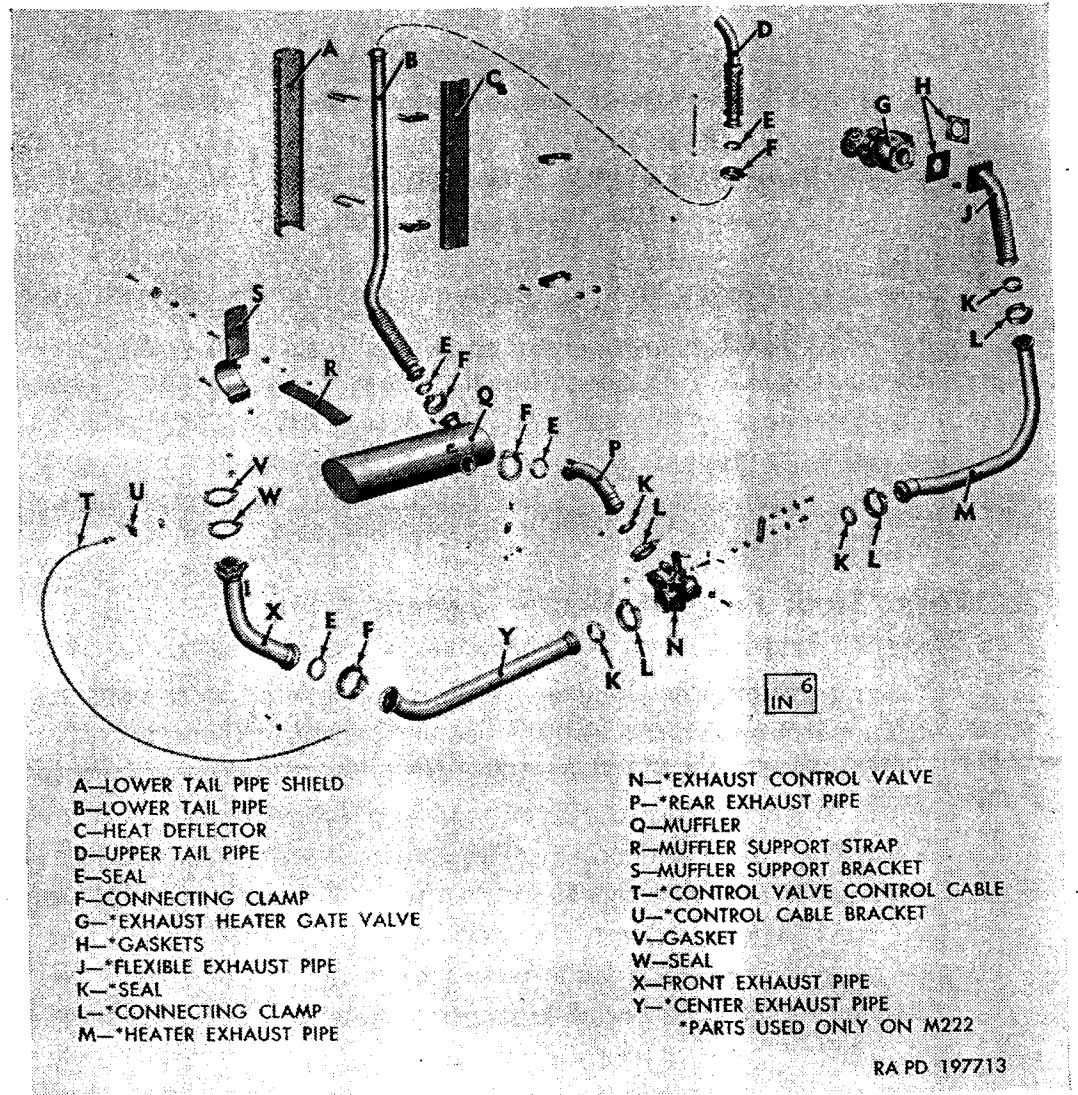
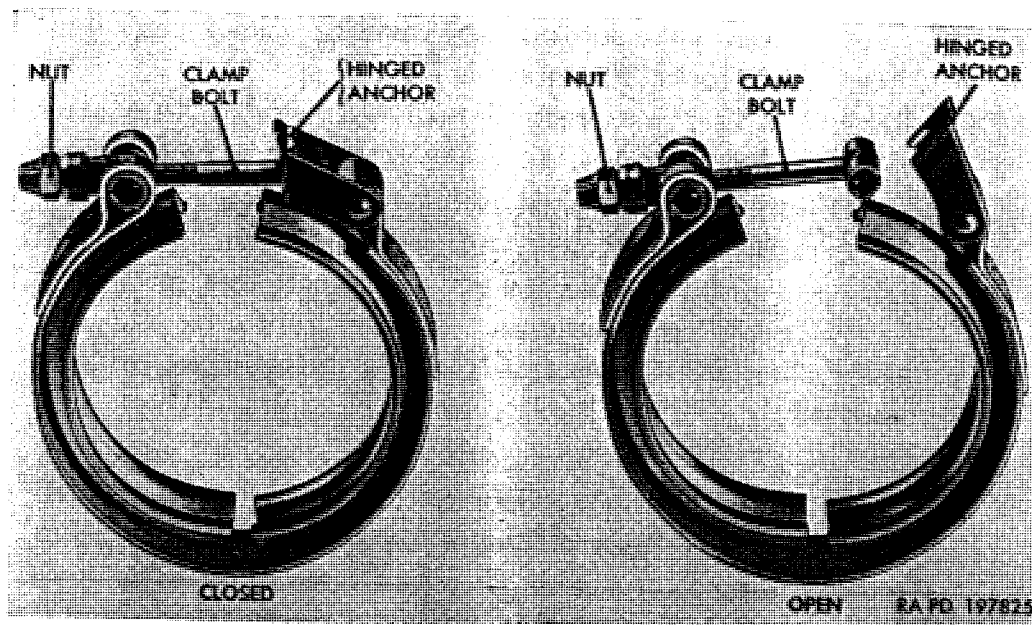

Figure 377. Water tank truck M222 exhaust system components.
Figure 378. Exhaust pipe connecting clamp.
- (1) Water tank exhaust heater system is connected to the engine exhaust system at the exhaust control valve. Control valve is controlled by a flexible cable from the driver's compartment. With handle in driver's compartment pushed in, gate in control valve seals the outlet to the water tank, and exhaust gases are directed through the muffler and tail pipe as in a conventional exhaust system. With handle pulled out, gate in control valve seals outlet to muffler and directs exhaust gases into the pipe leading to water tank heating chamber. After passing through tank heating chamber, the exhaust gases are expelled through an exhaust opening in tank body underframing at left rear corner.
(2) Procedures in this paragraph cover replacement of control valve cable, replacement of the exhaust pipe connecting clamps and seals, and replacement of exhaust pipes which are used only on water tank truck M222. For information on exhaust system components which are common to all vehicles, refer to paragraphs 137-140. Refer to paragraphs 348 and 349 for information on exhaust control valve and exhaust heater gate valve. Exhaust system components are shown in figure 377, with parts used only on water tank truck M222 indicated by an asterisk (*). All other parts are common to all vehicles.
Note. The key letters noted in parentheses are in figure 377, except where otherwise indicated.
- (1) *Removal.* To remove either the heater exhaust pipe (M), rear exhaust pipe (P), or center exhaust pipe (Y), remove connecting clamps (F and L) at both ends of pipe. To remove clamp, loosen clamp bolt nut enough to permit disengaging hinged anchor from end of clamp bolt (fig. 378); then spread clamp enough to remove from joint and slide onto pipe. Work each end of pipe loose from its attaching part and remove from under vehicle. To remove flexible exhaust pipe (J), remove connecting clamp (L); then remove four cap screws and nuts securing pipe flange to gate valve. Remove pipe and gasket (H). Discard gasket. Examine clamp seals (E and K); if damaged to the extent that leakage will occur, discard seals and obtain new seals for installation.
- (1) Before installing control valve, examine seals (K, fig. 377) on center, rear, and heater exhaust pipes. If damaged in any way, replace with new seals. Make sure connecting clamps are hanging on exhaust pipes.
- (2) Position valve under vehicle with rear exhaust pipe (H) and heater exhaust pipe (K) engaging outlet openings in valve body. Work pipes into body until the connecting clamp will engage both clamping flanges at each joint.
- (3) Place connecting clamp (J) over each joint, squeeze clamp together and swing hinged anchor over end of clamp bolt (fig. 378). Tighten clamp bolts just enough to prevent leakage.
- (4) Connect control valve support strap (D) to control valve support bracket (C) with a $\frac{3}{8}$ -24 x $1\frac{1}{8}$ cap screw, plain washer, spacer, and $\frac{3}{8}$ -24 safety nut. Attach cable clip (B) to control valve support bracket (C) with a $\frac{1}{4}$ -28 x $\frac{3}{4}$ cap screw and $\frac{1}{4}$ -28 safety nut.
- (5) Install center exhaust pipe (M) (par. 347c(2)).
- (6) Adjust yoke (F) on cable and connect to operating lever (G) (par. 347b(2)(b)).
- (7) Check operation of valve with handle in driver's compartment to make sure no binding exists in control cable or valve shaft.
- (1) Remove four nuts and cap screws (J) attaching flexible exhaust pipe (K) to heater gate valve (L).
- (2) Remove four nuts and cap screws (M) attaching heater gate valve (L) to mounting on body. Remove gate valve assembly.
- (3) Remove and discard two gaskets (H, fig. 377). Make sure all particles of gasket are removed from flexible pipe flange and mounting on body.